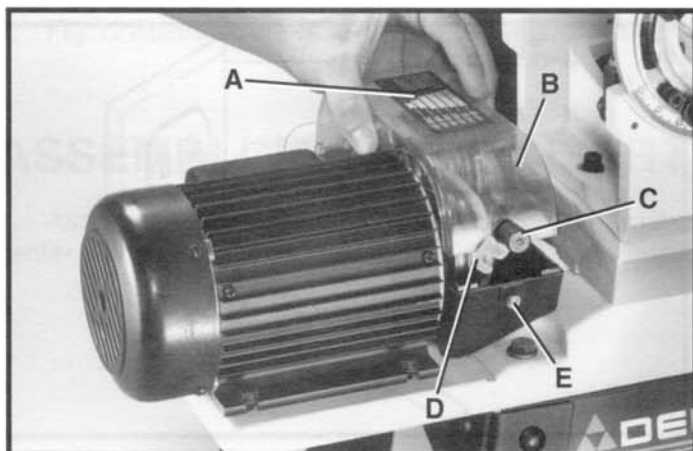

Fig. 18
Six cutting speeds of 400, 700, 1200, 1400, 1600, and 2000 strokes per minute are available with the 20" Scroll Saw. The convenient chart (A) Fig. 18, located on top belt cover (B) illustrates which steps of the pulley the belt must be located to obtain the six speeds of the 20" Scroll Saw.
2. To change the cutting speed of the scroll saw, rotate knob (C) Fig. 18, clockwise to disengage latch (D) from screw (E) and lift top cover (A) as shown.
4. Replace top cover (A) Fig. 18.